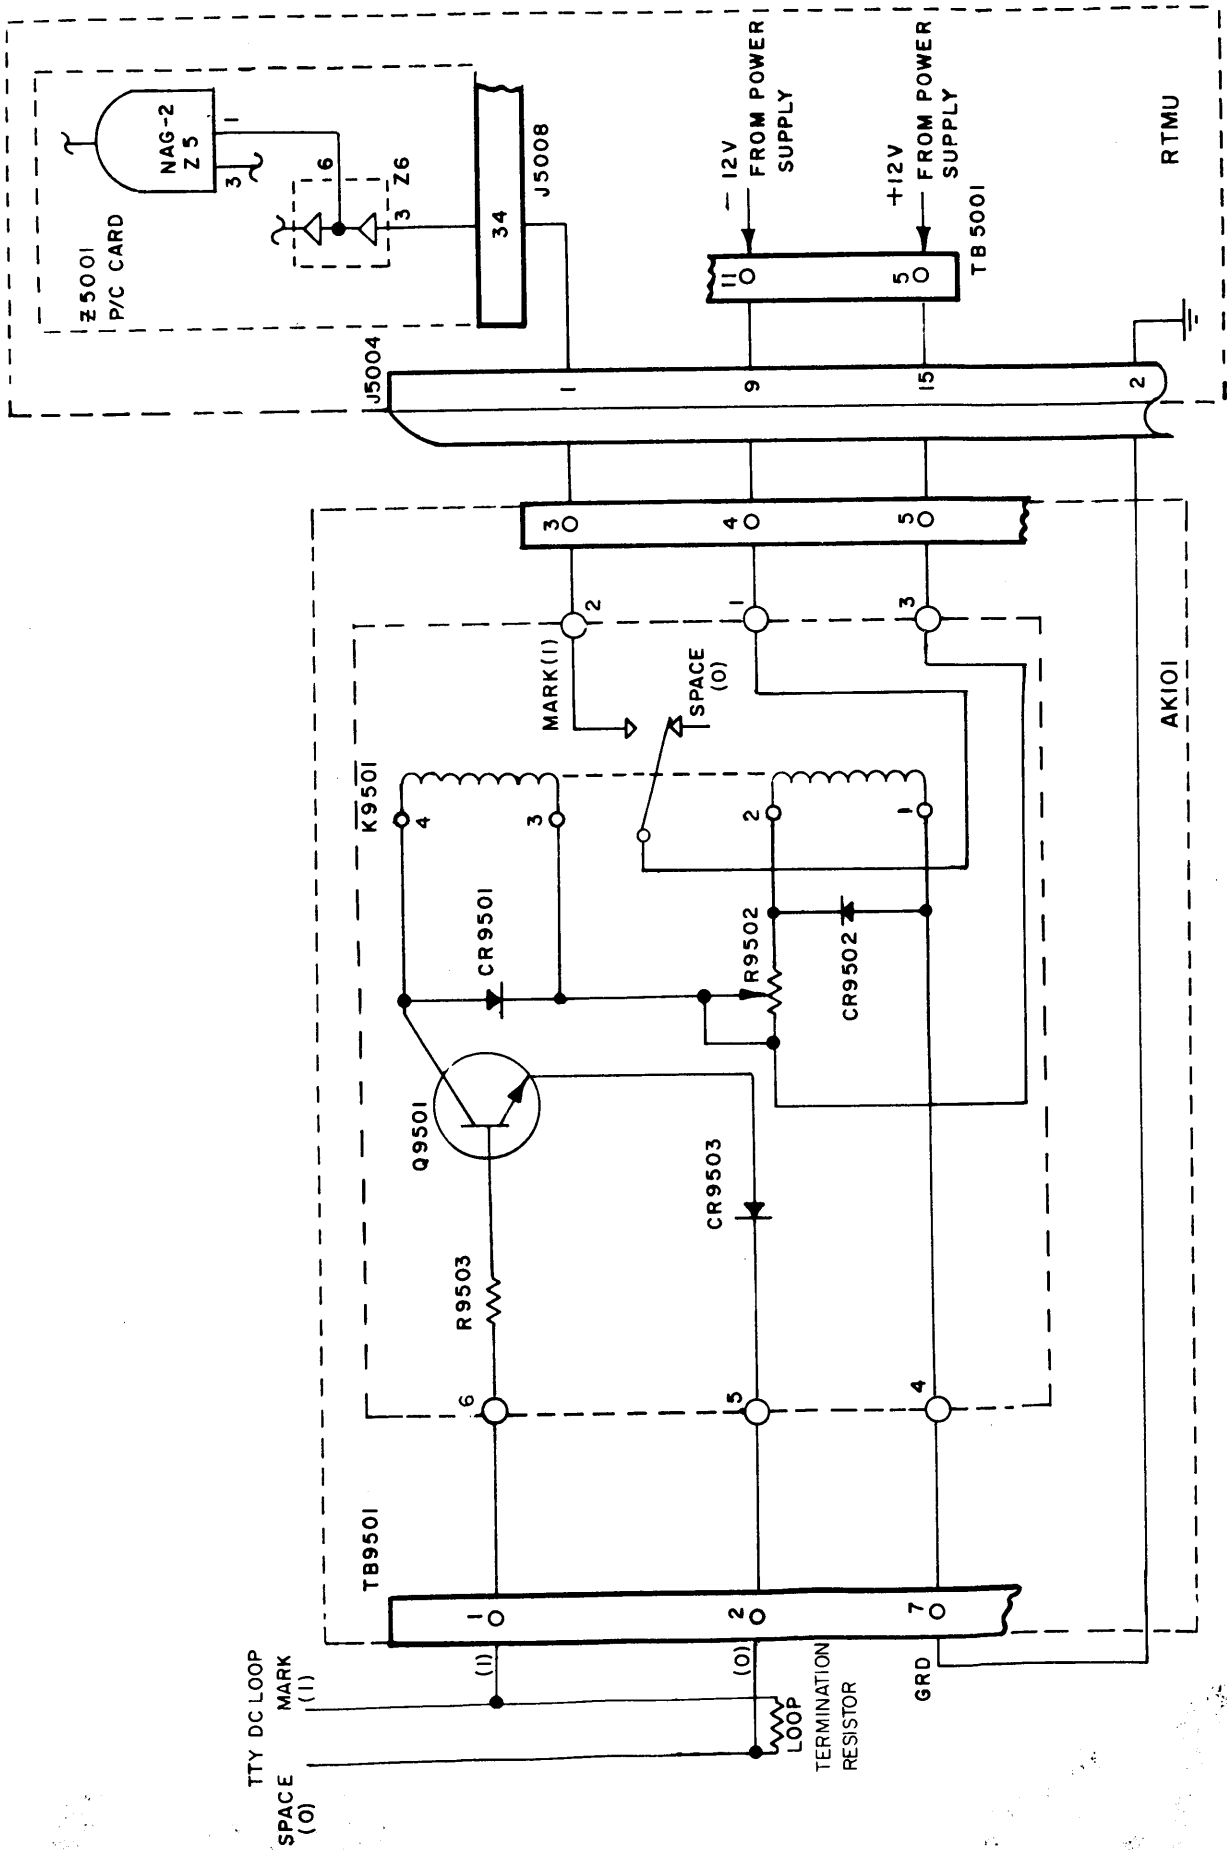

Figure 4-3. Tuning Code Entry into RTMU and AK-101, Simplified Schematic
c. CODE ENTRY (See Figure 4-3). - All input codes enter Isolation Keyer AK-101 at terminals 1 and 2 of terminal block TB9501. The AK-101 serves two purposes: (1) it isolates the Signal Data Converter-Storer RTMU units in multiple receiver systems utilizing a common input from one teletype line; (2) it converts the keyed d-c loop input from the teletype line into the required dry-contact keying of the RTMU.